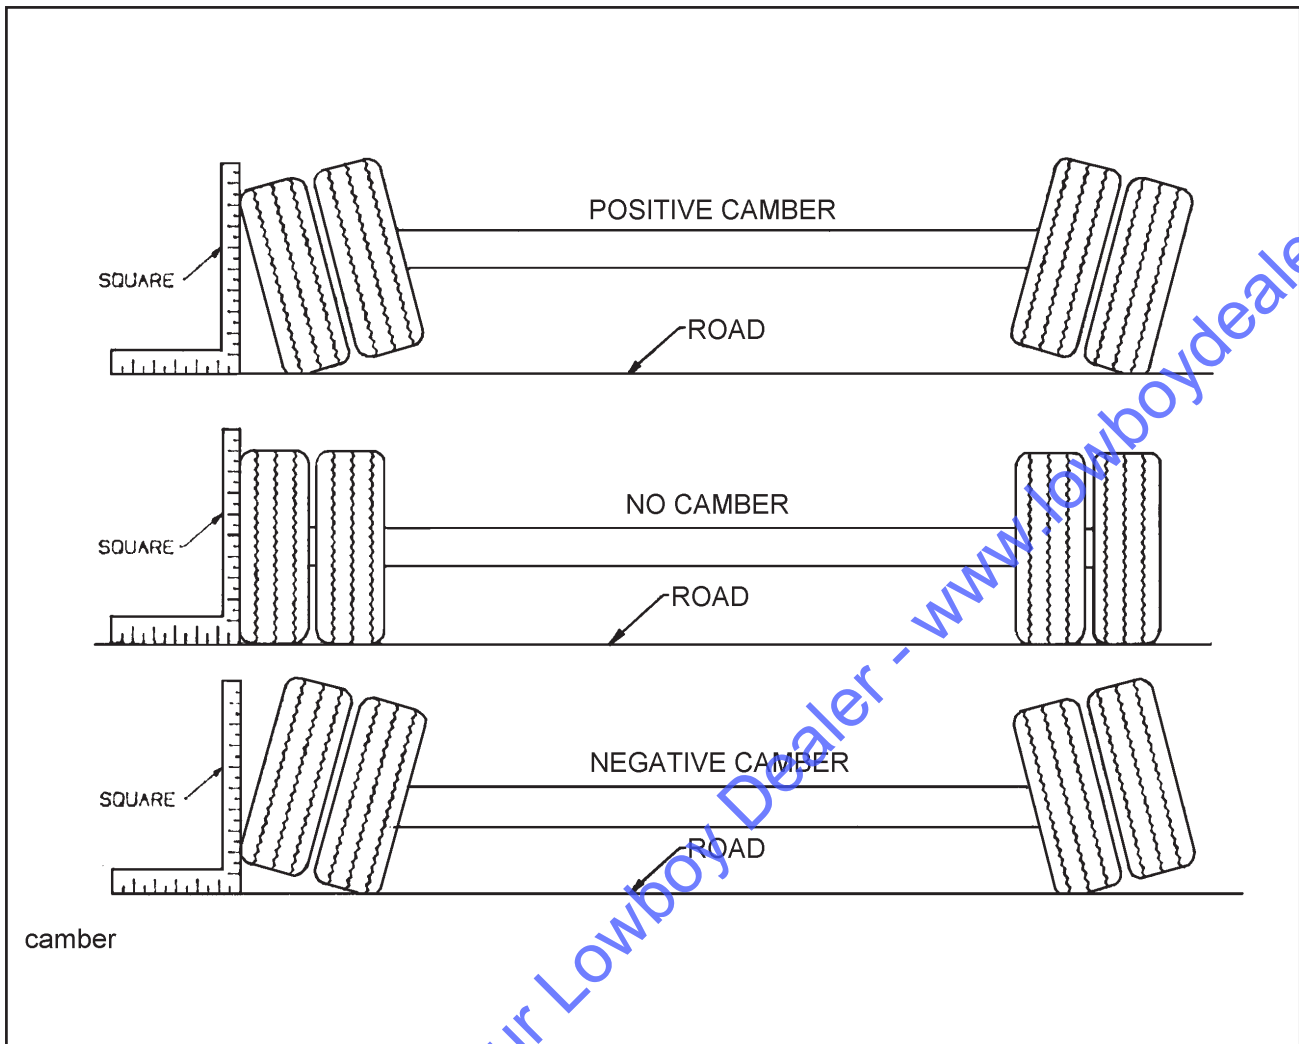

Figure 4-6 Examples of Camber
- d. Follow the same procedures as in **Section 4-7.1 b. and c.**, except place the axle gauge above and below the axle. If gauge point gap is found, the axle has positive or negative camber. The trailer axle has no camber from the factory. If it is found to have positive or negative camber, axle replacement is necessary (**See Figure 4-6** for examples of camber).